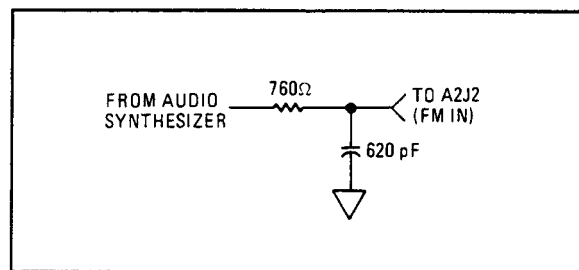

**Figure 8F-14.** Filter for  $\sqrt{1}$  Step 2
2. Construct the input load for the AM input as shown in Figure 8F-14. The 775 $\Omega$  resistor can be constructed from a 2150 $\Omega$  resistor in parallel with a 1210 $\Omega$  resistor.